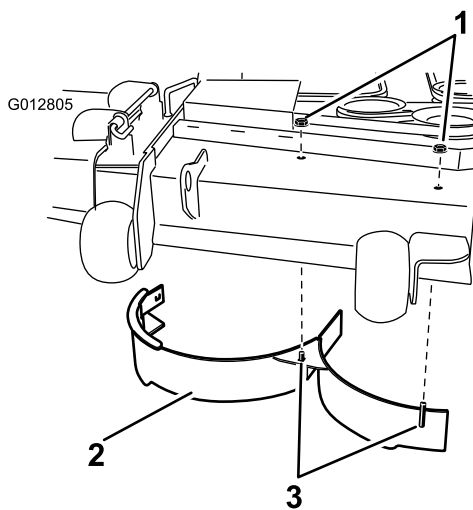

Figure 31
10. Remove the two locknuts (5/16 inch) to securing the welded posts of the right baffle to the top of the mower deck at center and right of center positions (Figure 31). Remove the right baffle from the mower deck.